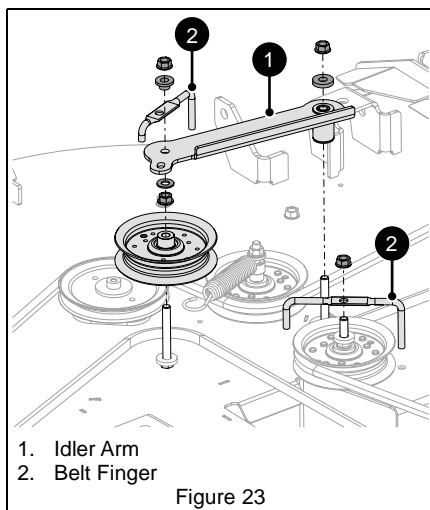

Figure 23
5. Remove hardware retaining idler arm and two belt fingers from mower deck and remove idler arm and belt fingers. Retain all parts for reinstallation. See Figure 23.
2. Reinstall idler arm and belt fingers. See Figure 23.